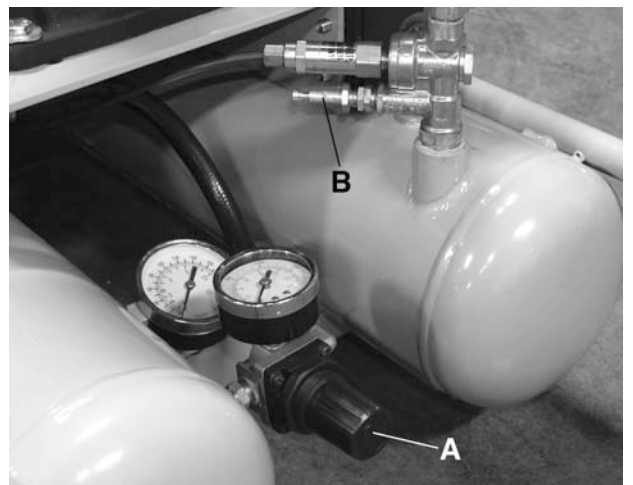

FIGURE 2
- 2) Pull then turn regulator knob (A) Fig.2 counterclockwise to open air flow.
- 3) Move load master valve lever (B) Fig.2 to a horizontal position (unloaded position) as shown to allow the compressor pump to run without compressing air.
- 6) After 15 minutes, move load master valve lever (B) Fig.2 down (loaded position) and turn the regulator knob clockwise. The compressor will begin to pump air in the air tanks.